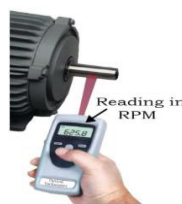

Fig. 1.82 Reading in RPM
Step 4. Focus the light ray on the reflecting tape and observe the reading in RPM on the tachometer as shown in Figure 1.82.